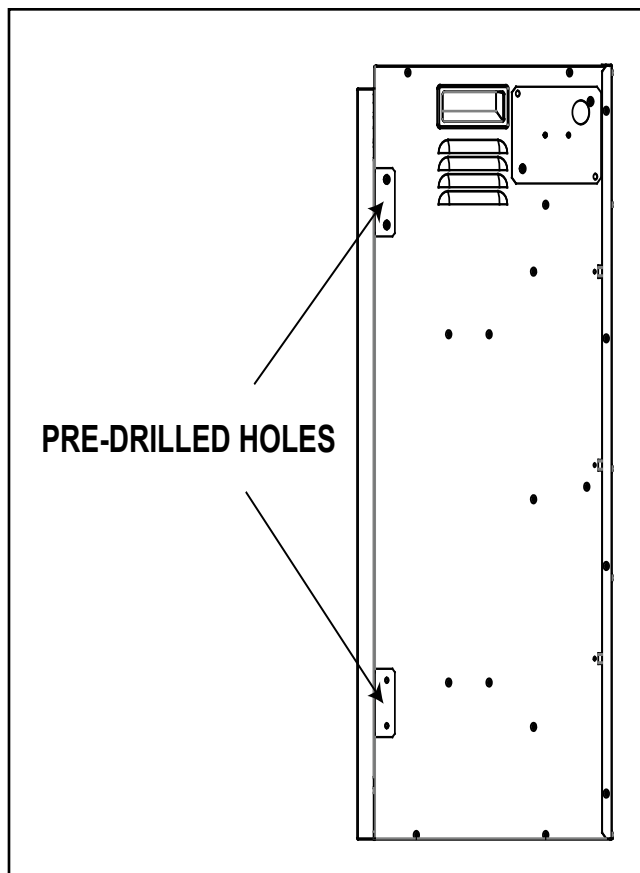

Figure 4.2 Pre-drilled Hole Location
Install mounting brackets (4) by aligning them with the pre-drilled holes located on the side of the appliance. Use two screws (ST4 x 8) per bracket to secure to the appliance. See Figure 4.2 and 4.3.